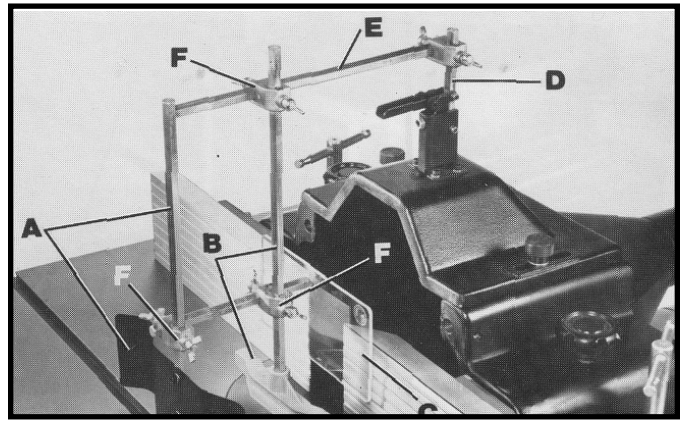

Fig. 23
1. Assemble spring guard (A) Fig. 23, holddown (B) and clear plastic guard (C) to mounting rod (D) located on top of fence cover using rod (E) and clamps (F) as shown.